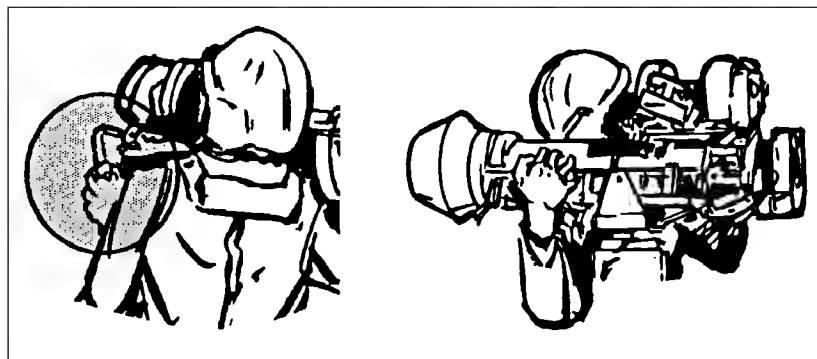

Figure E-2. M175 firing position.
- (1) Adjust the commander's chair in the APC so that, when you assume the firing position, both feet are flat on the commander's chair and your knees and body are straight.
- (2) Keep your feet apart at a comfortable angle.
- (3) Ensure that your left arm and hand exert maximum rearward pressure on the elevation damper. This action pulls the cradle down against your shoulder (Figure E-2).